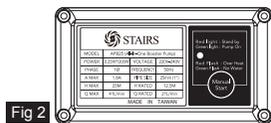

Fig 2
- Installation where the pump is above the water source (suction lift), if there is no water come up after 2 minutes pump running, please push the MANUAL START button shown in Fig2 to force the pump to lift the water until the suction line is full.